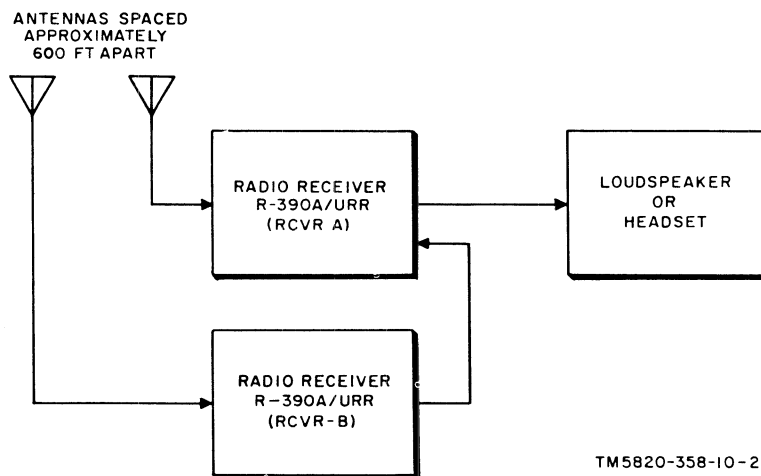

Figure 2. Space-diversity receiving system, block diagram.
- (1) Two or three receivers can be connected as a space-diversity receiving system for reception of voice signals (fig. 2). This system provides substantially uniform audio output to a loudspeaker or headset, minimizing the effect of fading signals.
- (2) Rhombic or doublet antennas spaced at least 600 feet apart are connected to the two receivers.